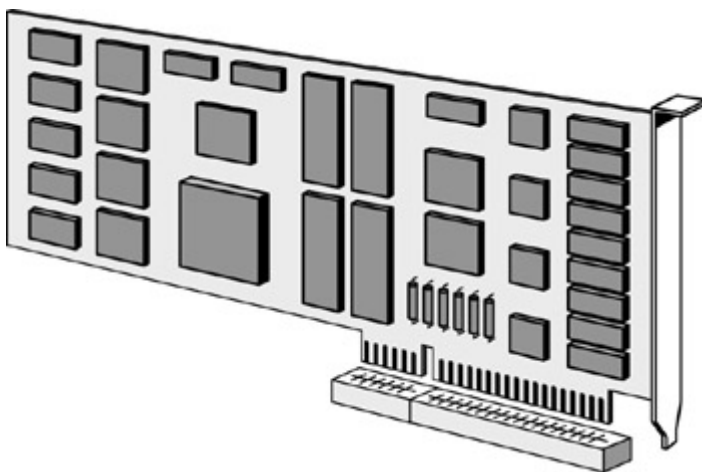

Figure 6-3: The ISA 16-bit card and slot.
- ▮ **Industry Standard Architecture (ISA):** Pronounced "ice-ah," ISA was introduced with the IBM AT and called the AT bus in its early days; it provided a 16-bit data bus. As shown in Figure 6-3, the ISA bus is characterized by adding an additional short slot to a slot on the 8-bit bus to create the 16-bit connector. ISA added eight additional IRQs and doubled the number of DMA channels. ISA expansion cards were designated to the appropriate IRQ or DMA numbers through jumpers and DIP switches. The ISA architecture also separated the bus clock from the CPU clock to allow the slower data bus to operate at its own speeds. ISA slots are found on 286, 386, 486, and some Pentium PCs.